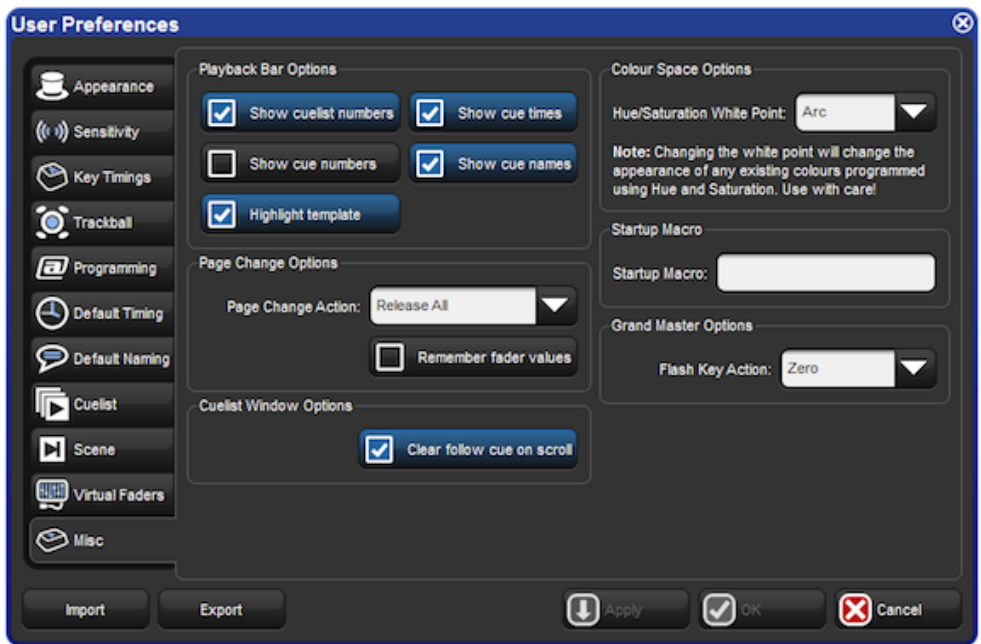

Figure 17.1. The Misc pane of the User Preferences window
- Setup → Preferences → Misc : see Figure 17.1, “The Misc pane of the User Preferences window”.